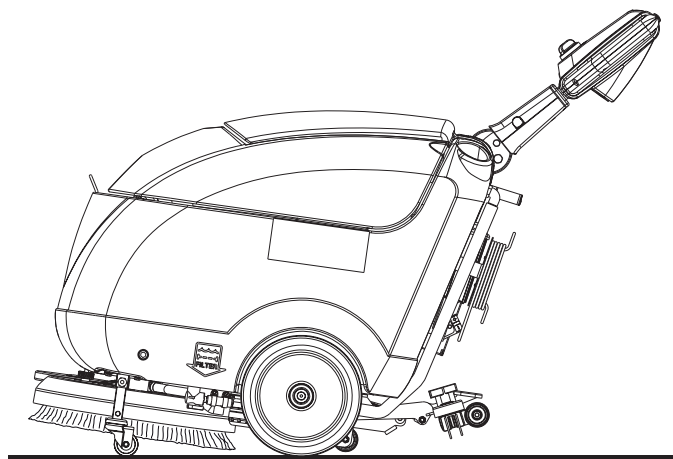

Figure 5
7. Release the brush levers (70) and the enabling push-button (69).
8. Turn the knob (62) to "0" position to switch off the machine.
9. Engage the positioning pin (24) and activate the machine parking device (23a) to keep the brush/pad-holder lifted (see Fig. 5).
- Switch off the machine by turning the knob (62) to "0".
- Lift the squeegee (58).
- Engage the positioning pin (24) and activate the machine parking device (23a) to keep the brush/pad-holder lifted (Fig. 5).
- When all the work is done, it is advisable to remove the brush/pad-holder from the deck (see the procedure in the next paragraph), and engage it to the front holder (43).